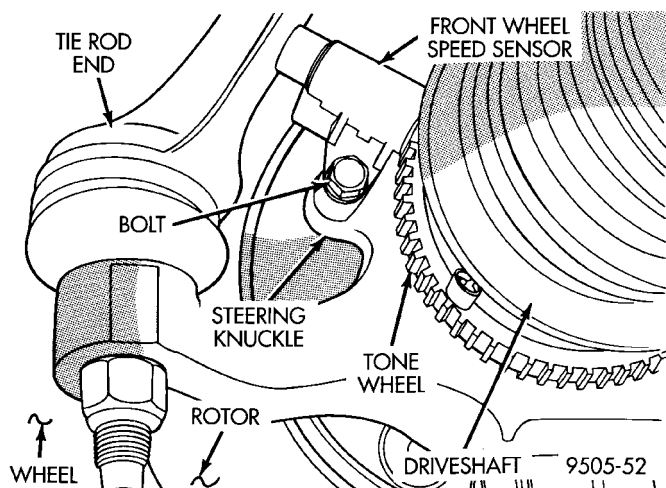

Fig. 31 Front Wheel Speed Sensor Attaching Bolt
(4) Remove wheel speed sensor head to steering knuckle attaching bolt (Fig. 31).
(3) Install wheel speed sensor to steering knuckle attaching screw (Fig. 31). Torque the attaching screw to 7 N·m (60 in. lbs.)
(4) Install the wheel and tire assembly on vehicle.
(5) Road test vehicle to ensure proper operation of the base and ABS systems.